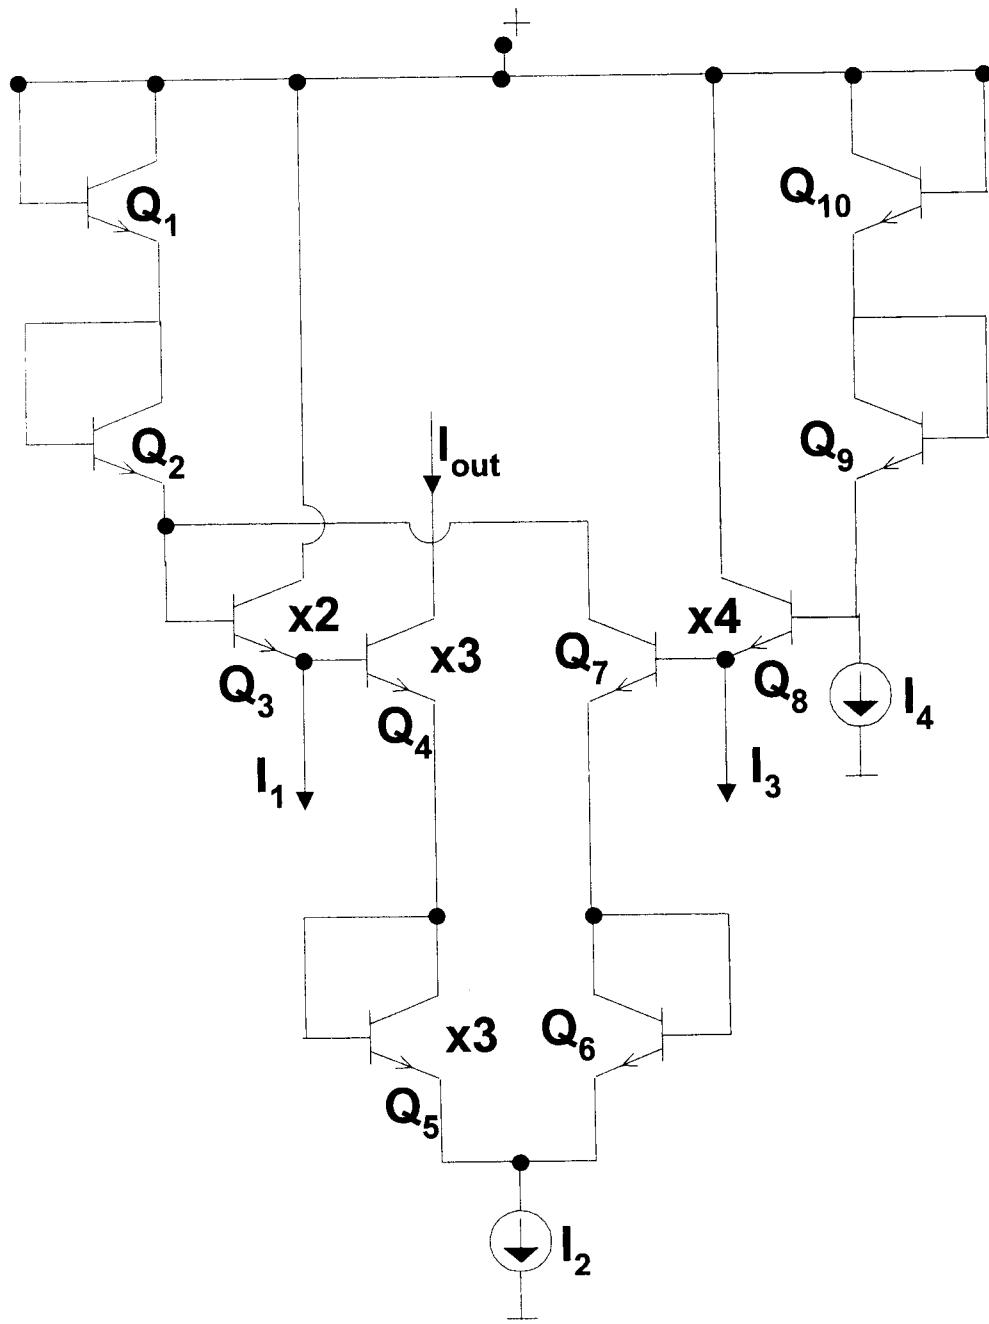

Figure 4.2
- b. For the circuit of Figure 4.2, I_1 and I_3 are the input currents whereas I_2 and I_4 are constant bias currents. Derive an expression for the output current I_{out} stating any assumptions that you make, and hence outline the function of this circuit. Write down an expression for the output current when $I_1 = \left| \int I_{in} dt \right|$ and $I_3 = \left| \frac{dI_{in}}{dt} \right|$, given that $I_{in} = A \sin(\omega t)$. [8]